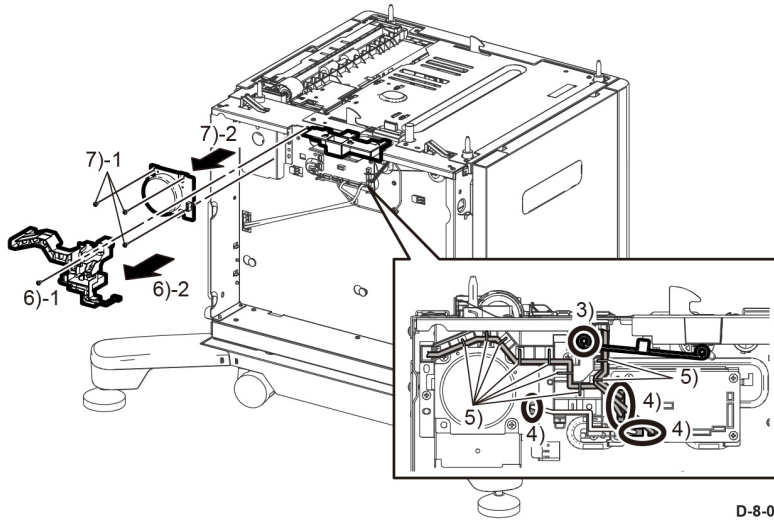

Figure 1 Main motor assembly
6. Perform the steps that follow, Figure 1: